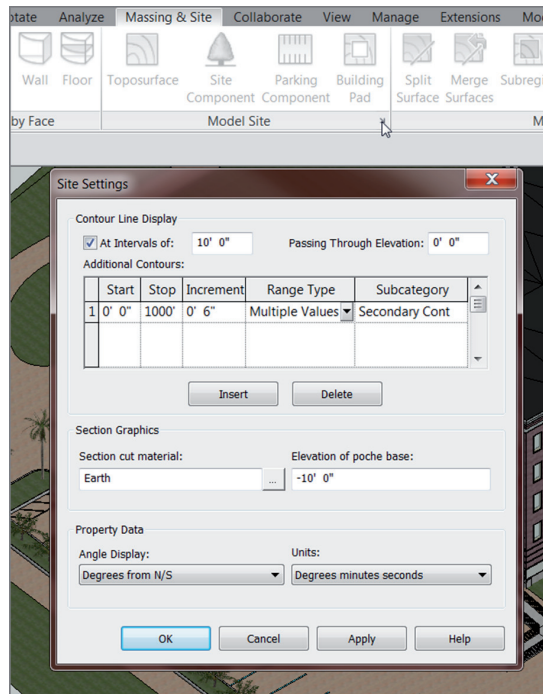

FIGURE BC3.19: Changing the additional contour increment
1. Click the arrow in the lower-right corner of the Model Site panel, as shown in Figure BC3.19.
2. In the Site Settings dialog box that opens is a field that contains additional contours. In the Increment panel, change the value 1'–0" (300 mm) to 6" (150 mm) (see Figure BC3.19).